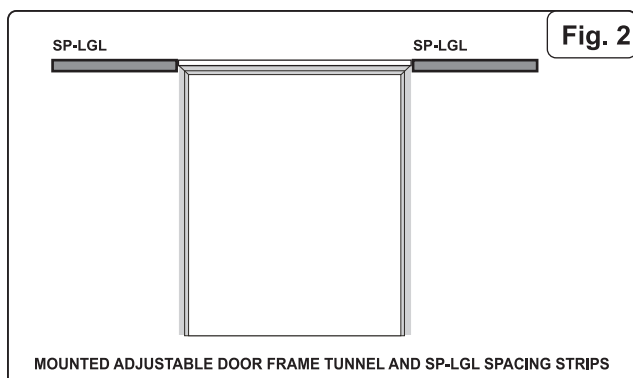

Fig. 2
5. Fix the SP-LGL strip at both sides of the door frame tunnel at the same height as the SP-LGS spacer also by means of anchors. Use a level for fixing the spacing strips in order they are fixed at the same level (fig. 2).